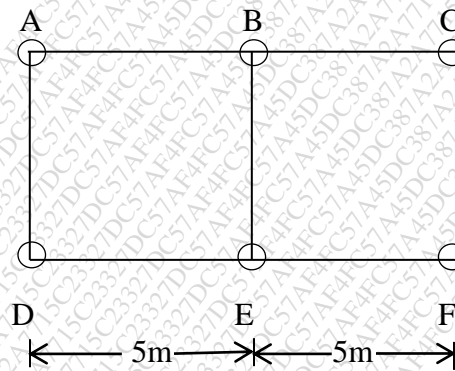

Fig.1
- Q.1 A building rests on six columns 500mm diameter & arranged as shown in fig.1. Each central column carried a load of 800 KN & the end column carry 500KN each. Design main beam ABC & secondary beam BE of the raft foundation. Considering total wind load moment of 1200 KN-m. SBC of soil is 75 KN/m² use M₂₀ & Fe₄₁₅. 20